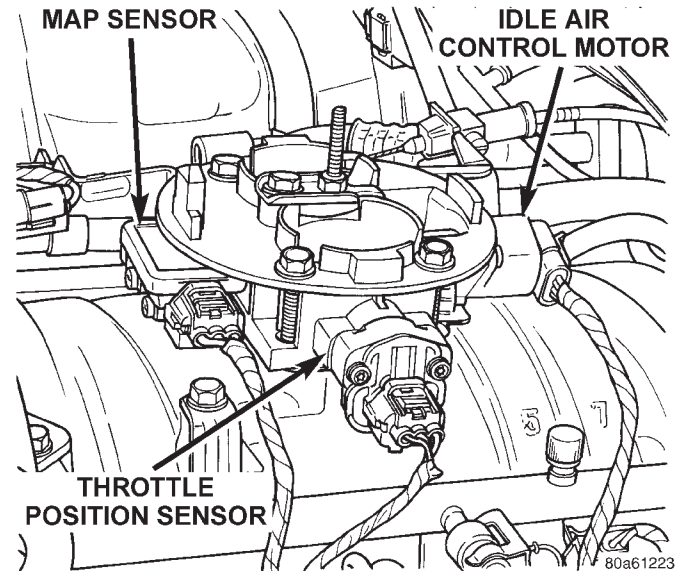
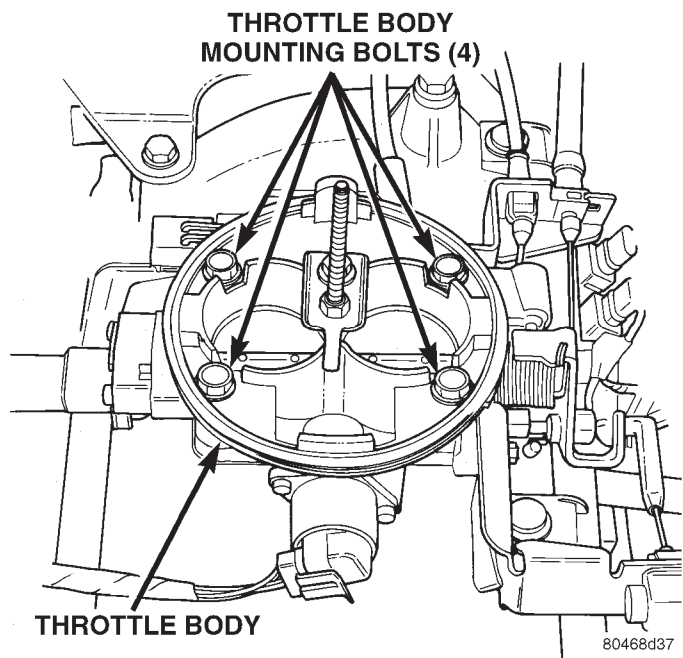

Fig. 64 Sensor Electrical Connectors—5.2L/5.9L Engines—Typical
Fig. 65 Throttle Body Mounting Bolts—5.2L/5.9L Engines—Typical
- (1) Remove the air duct at throttle body.
- (2) Disconnect throttle body electrical connectors at MAP sensor, IAC motor and TPS (Fig. 64).
- (3) Remove vacuum line at throttle body.
- (4) Remove all control cables from throttle body (lever) arm. Refer to the Accelerator Pedal and Throttle Cable section of this group for additional information.
- (5) Remove four throttle body mounting bolts (Fig. 65).
- (6) Remove throttle body from intake manifold.
- (7) Discard old throttle body-to-intake manifold gasket.